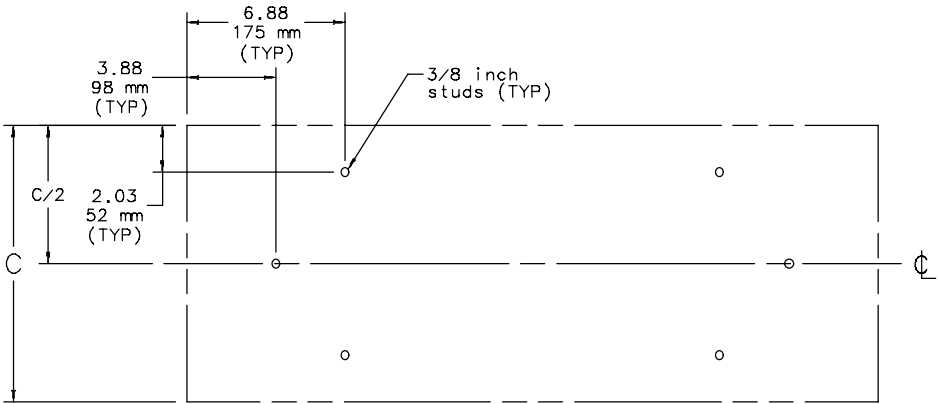

Figure 1 – Floor Stud Hole Pattern
- Anchor six 3/8 inch diameter studs (not provided with kit) securely in the floor as shown in figure 1.